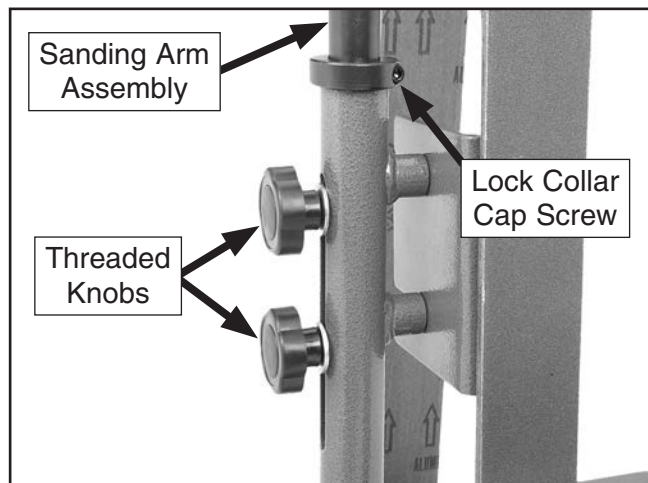

Figure 20. Sanding belt tension controls.
3. Hold onto the sanding arm assembly to keep it from moving, then loosen the threaded knobs and the lock collar cap screw shown in **Figure 20**.